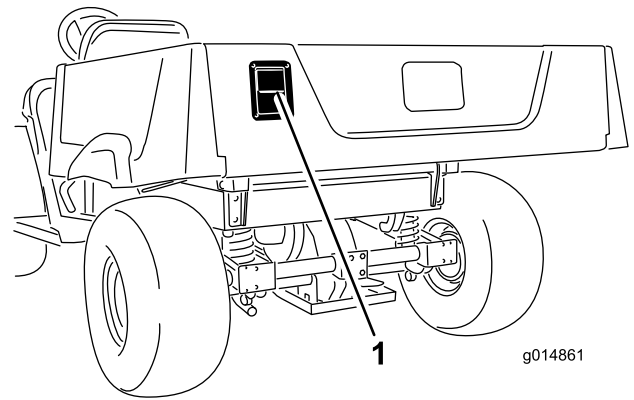

Figure 16
- To open the tailgate, pull outward and lift the latch up, then slowly lower the tailgate (Figure 16).